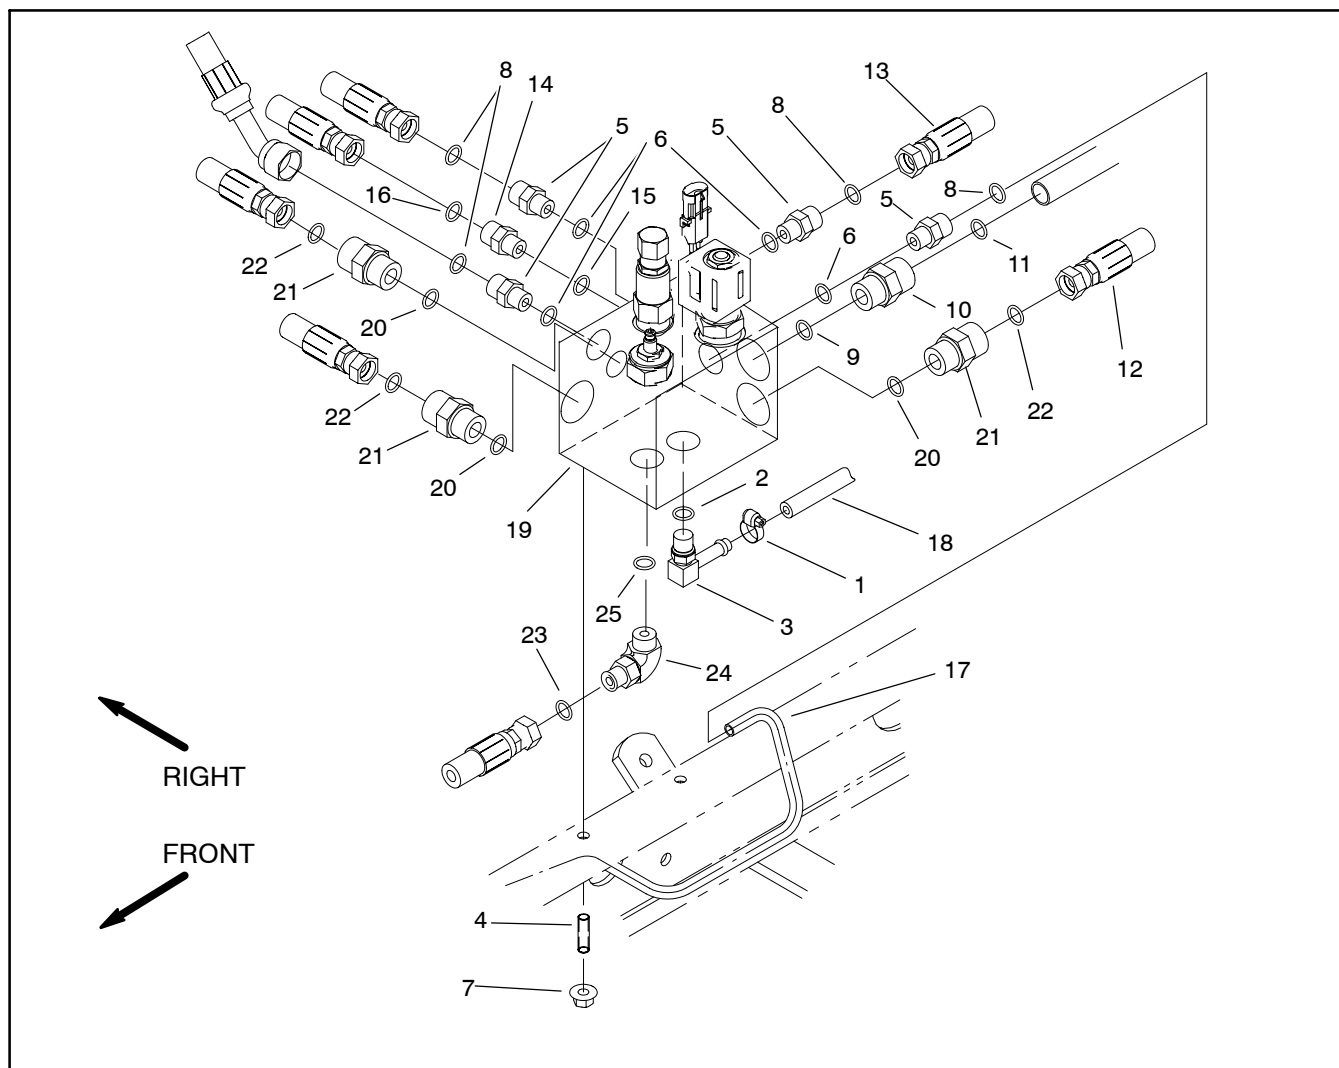

Figure 43
Removal (Fig. 43)
4. Remove hydraulic manifold from the machine using Figure 43 as guide.
Installation (Fig. 43)
1. Install hydraulic manifold to the frame using Figure 43 as guide. Use labels and marks made during the removal process to properly install hoses and fittings.